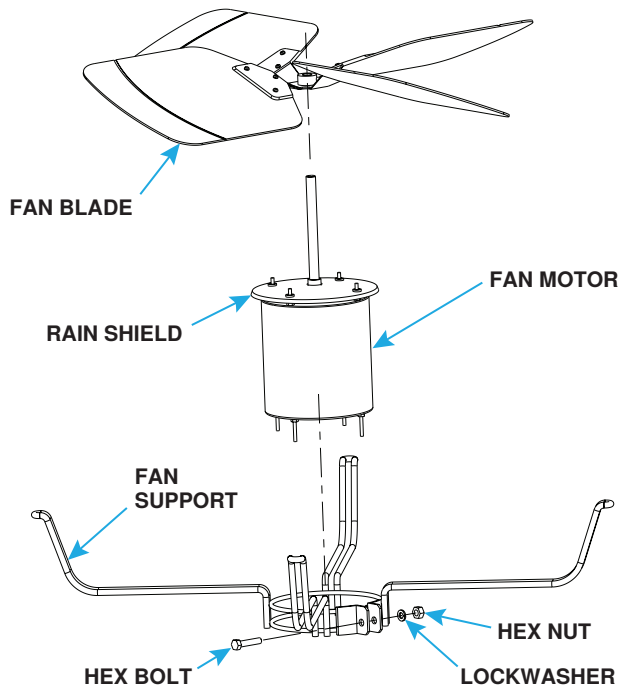

Figure 14. Condenser Fan Assembly
4. Remove existing fan motor (see Figure 14):
6. Install capacitor (2) on replacement fan motor (1).
7. Install replacement fan motor (see **Figure 14**):
- a. Install replacement fan motor (1) to fan support and secure using hex bolt, lockwasher, and hex nut.